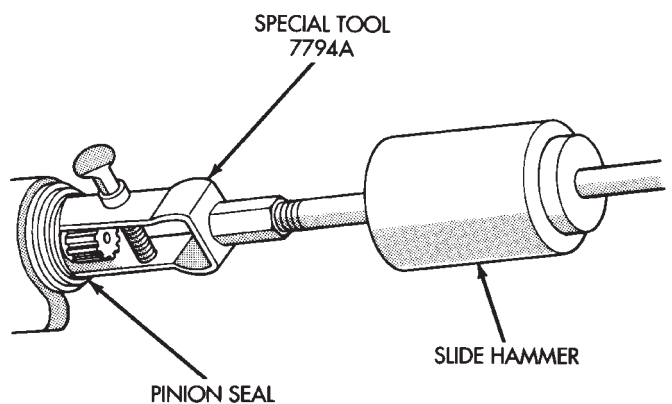

Fig. 17 Seal Removal
(10) Use Remover 7794-A and slide hammer to remove the pinion shaft seal (Fig. 17).
(11) Remove the front pinion bearing using a pair of suitable pick tools to pull the bearing straight off the pinion gear shaft. It may be necessary to lightly tap the end of the pinion gear with a rawhide or rubber mallet if the bearing becomes bound on the pinion shaft.
(12) Remove the collapsible spacer.